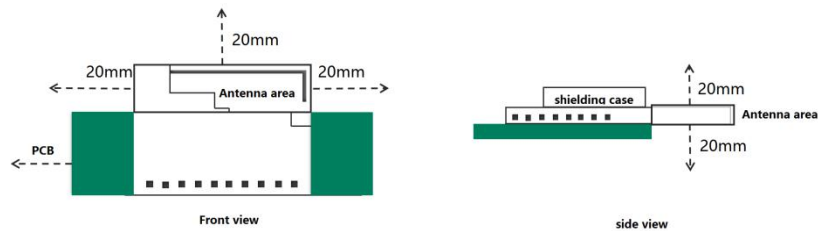

Figure 4. Suggested Module Placement Region
| FIGURE 4. ORDERING INFORMATION.....              | 9  |
- X-C13SG Physical Dimensions (Unit: mm),please refer to Figure 4: